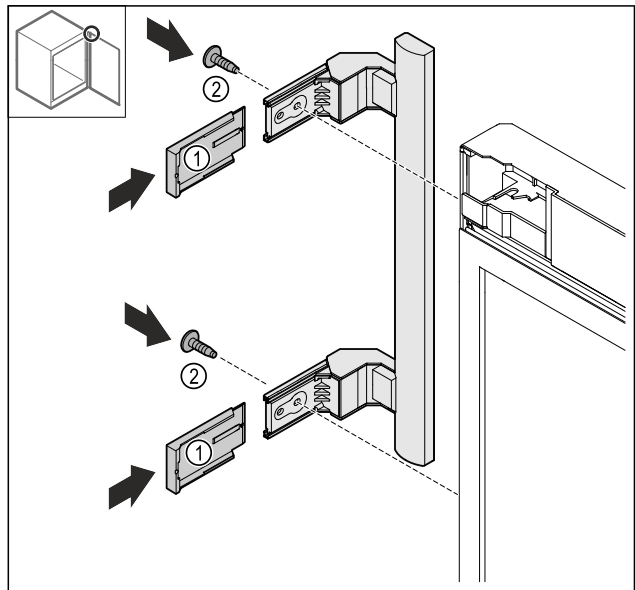

Fig. 16
- ▶ Push the covers Fig. 16 (1) on.